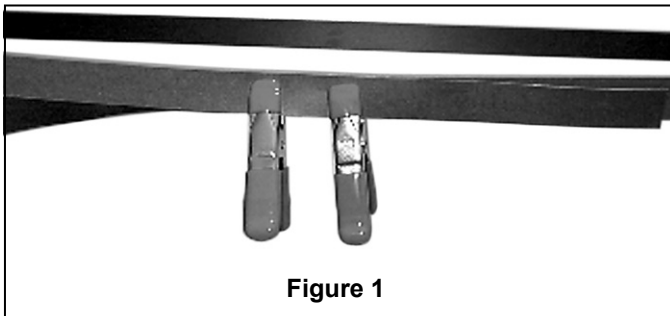

Figure 1
1. Wrap the belting around the two pulleys that will be connected and overlap the belting as shown. Use the spring clamps provided to hold the belting in place temporarily. With the clamps remaining in the same place, grasp both ends of the belting and pull tight. The clamps should hold the belting together after releasing the belt. (Figure 1)
1. Lay side "A" of the blade holder on a flat surface with the inside of the blade holder facing up. This is the side with the threaded posts and pitched foot (Figure 1).